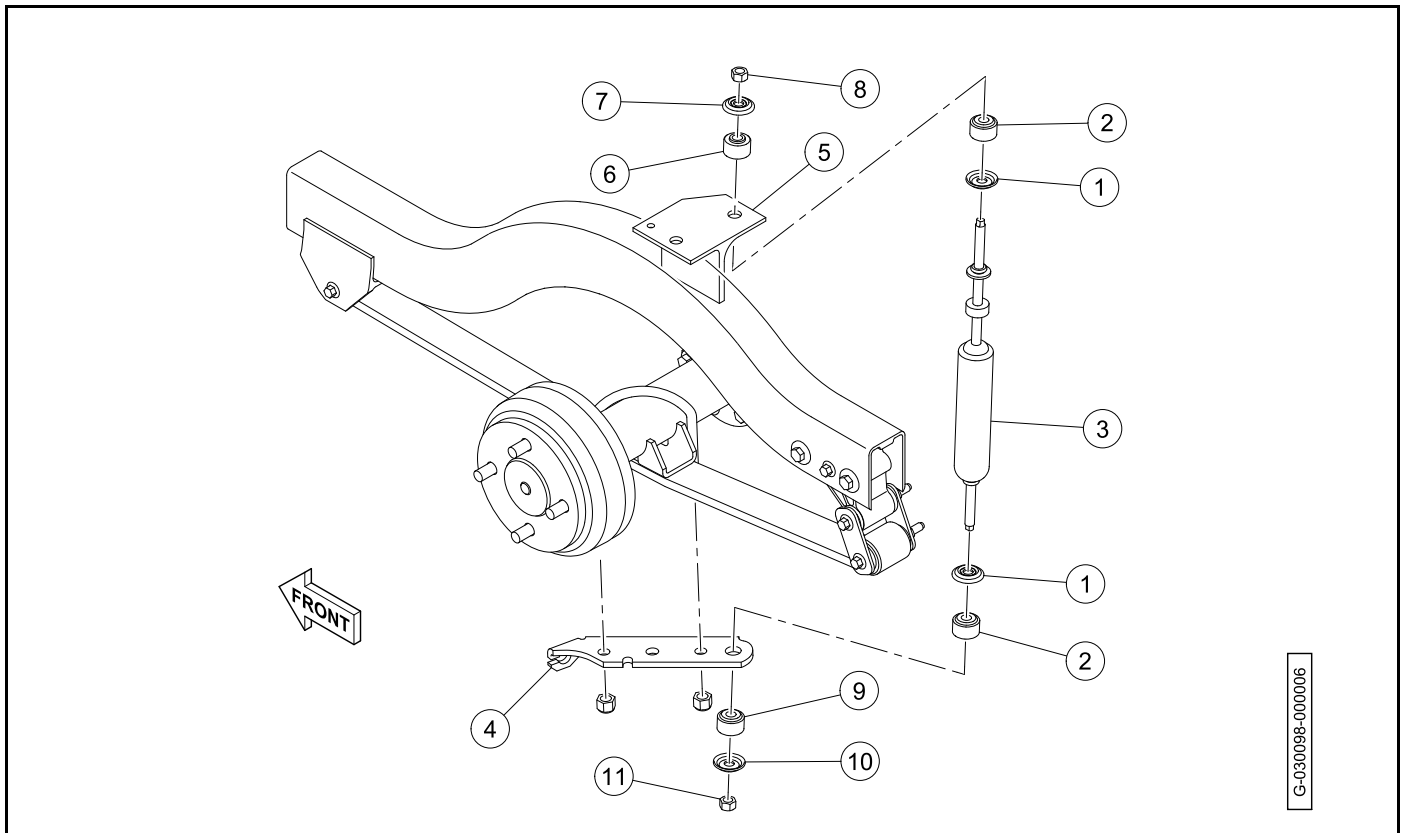

Figure 9-3 Rear Shock Absorber Installation
1. Install the cup washers (1) and rubber bushings (2) onto the shock absorber (3) (Figure 9-3, Page 9-3).
2. Install the bottom stem of the shock absorber into the shock mount bracket (4).
3. Install the top stem of the shock absorber into the frame shock mount (5).
4. Install the rubber bushing (6), cup washer (7), and nut (8) onto the top of the shock absorber.
5. Install the rubber bushing (9), cup washer (10), and nut (11) onto the top of the shock absorber.